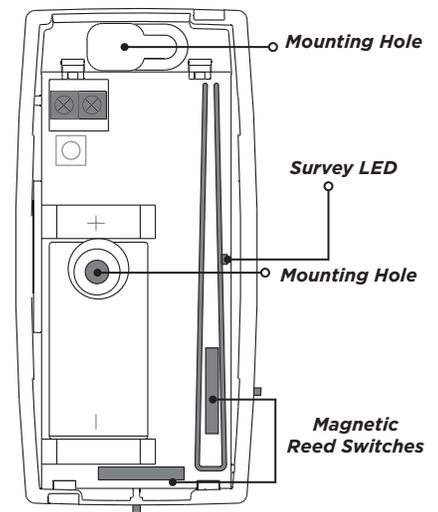

Figure 2: Transmitter Components
2. Hold the transmitter in place with the magnetic reed switch closest to where the magnet will be mounted, See Figure 2. Ensure the transmitter and the magnet are no more than 2.54 centimeters apart.